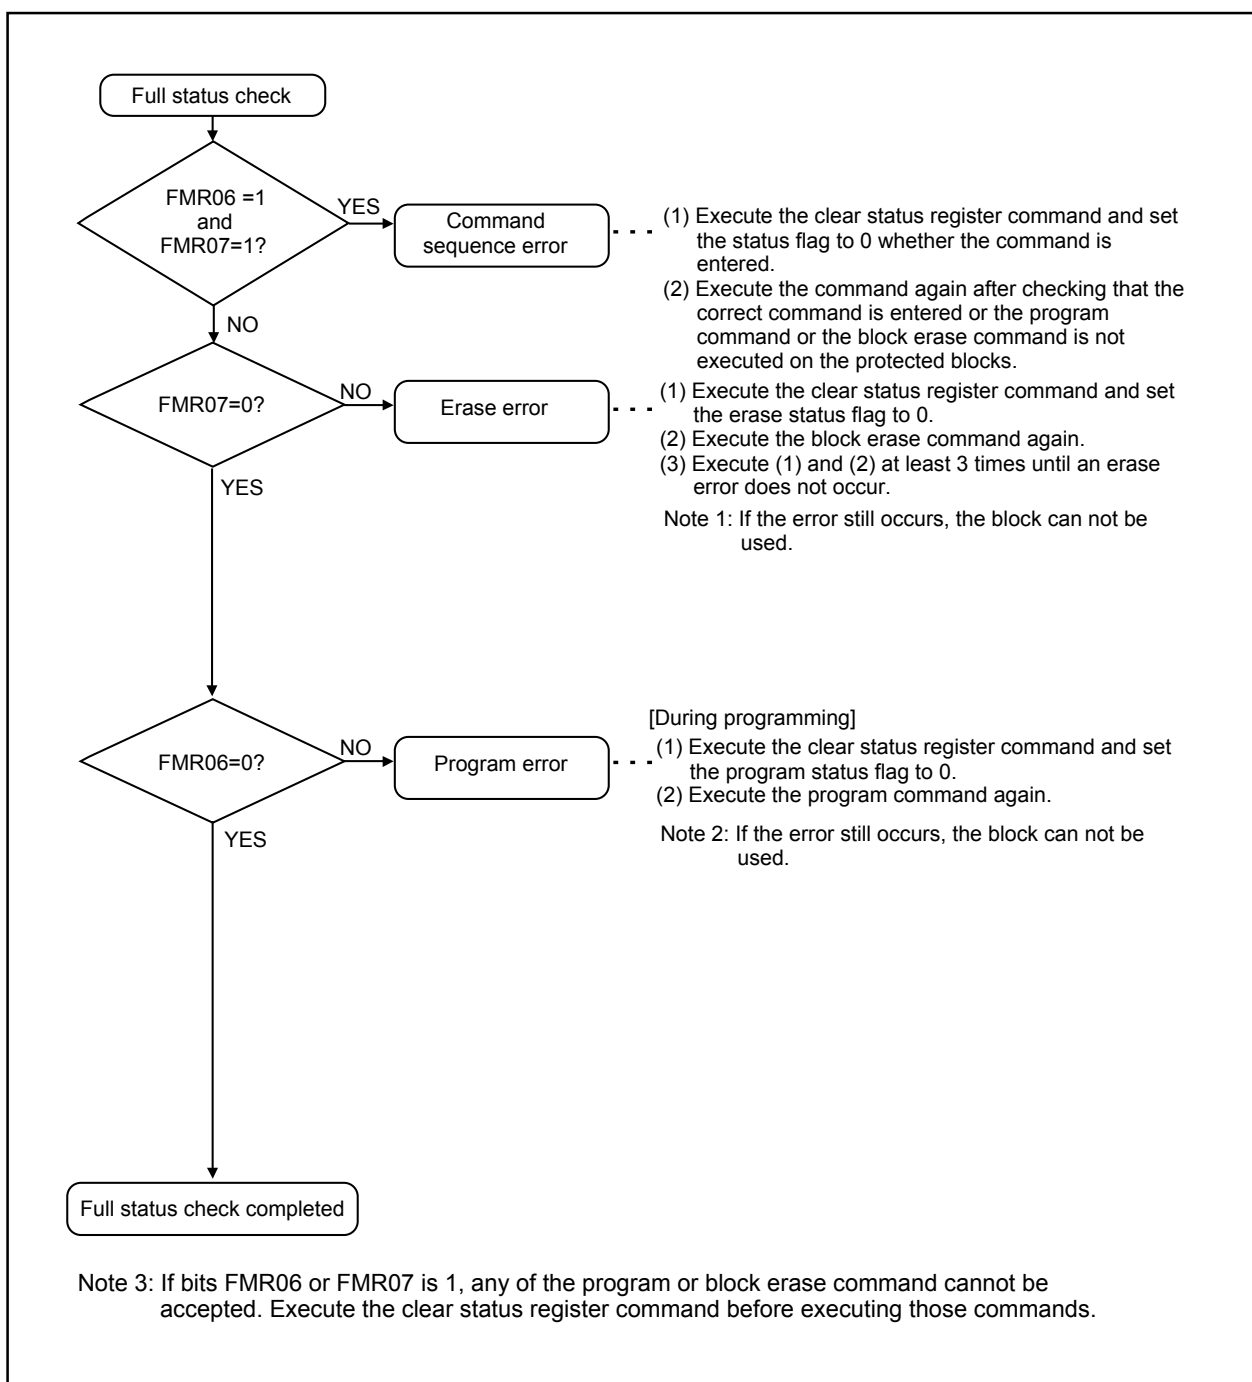

Figure 19.13 Full Status Check and Handling Procedure for Each Error
4. Refer to **Figure 19.13**.
Table 19.7 lists errors and FMR0 register state. **Figure 19.13** shows a flow chart of the full status check and handling procedure for each error.